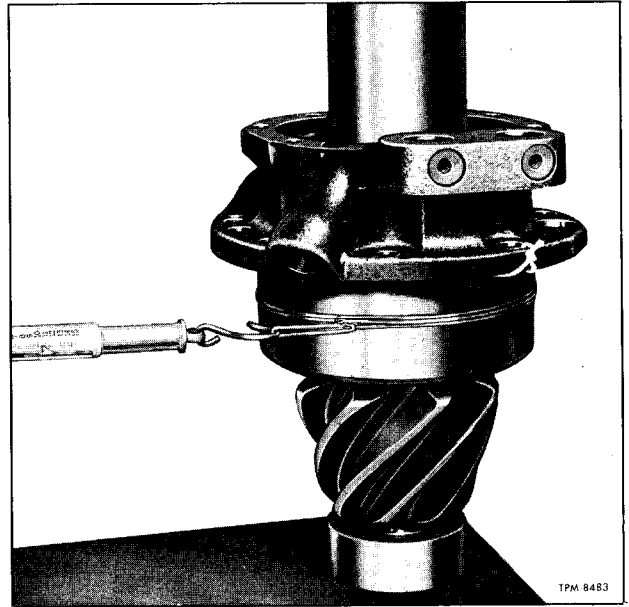

Figure 10—Checking Pinion Bearing Preload
1. If pinion bearing cups (32 and 34) were removed during disassembly, press bearing cups firmly against shoulder of pinion bearing cage (30).
2. Position pinion bearing (35) on drive pinion (36), with widest part of bearing cone toward gear teeth, then press bearing on pinion until bearing cone is seated solidly on drive pinion.
3. Install drive pinion inner bearing (37) on drive pinion (36), using arbor press. Install retainer ring (38) to retain bearing.
4. Lubricate pinion bearing cones and cups. Install original pinion bearing adjusting spacer (33) on drive pinion.
5. Insert drive pinion (36) and bearing assembly into pinion cage (30); then using an arbor press, press outer pinion bearing (31) firmly against bearing spacer (33). Rotate bearing cage through several complete revolutions to assure normal bearing contact.
6. While assembly is still in press under pressure (14-ton), check drive pinion bearing preload. Wrap soft wire around pinion bearing cage (30) as shown in figure 10. Attach pound scale to wire, then pull on scale, keeping scale in a horizontal plane. Note scale reading when assembly is rotating freely. Reading should be from 5 to 15 inch-pounds. To compute inch-pound value of scale reading, multiply scale reading (pounds) by one-